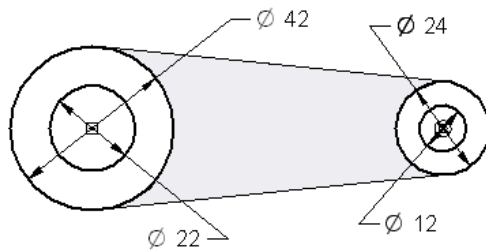

Figure 5-62 Profile for the second feature
2. Add the required relationships and dimensions to the sketch, as shown in Figure 5-62.